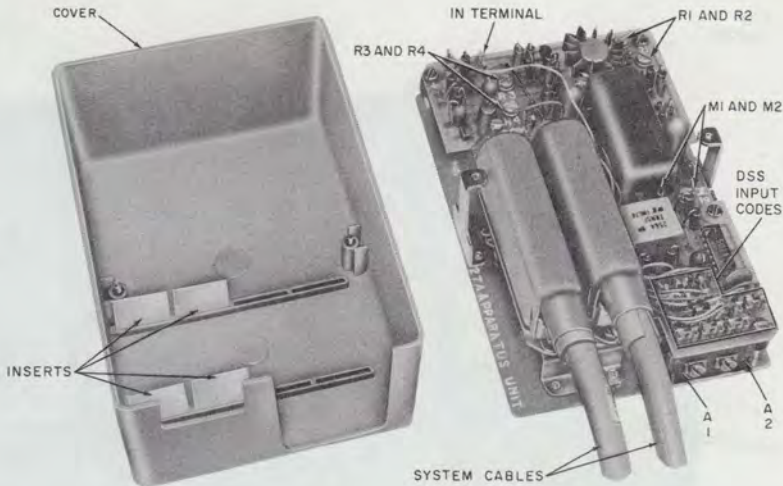

Fig. 31—27A Apparatus Unit
3.45 The 27A apparatus unit (Fig. 31) has terminals for connection to the 4A System and the customer equipment; put it where there is convenient access to both. It must be located indoors where the temperature is always above 32°F.